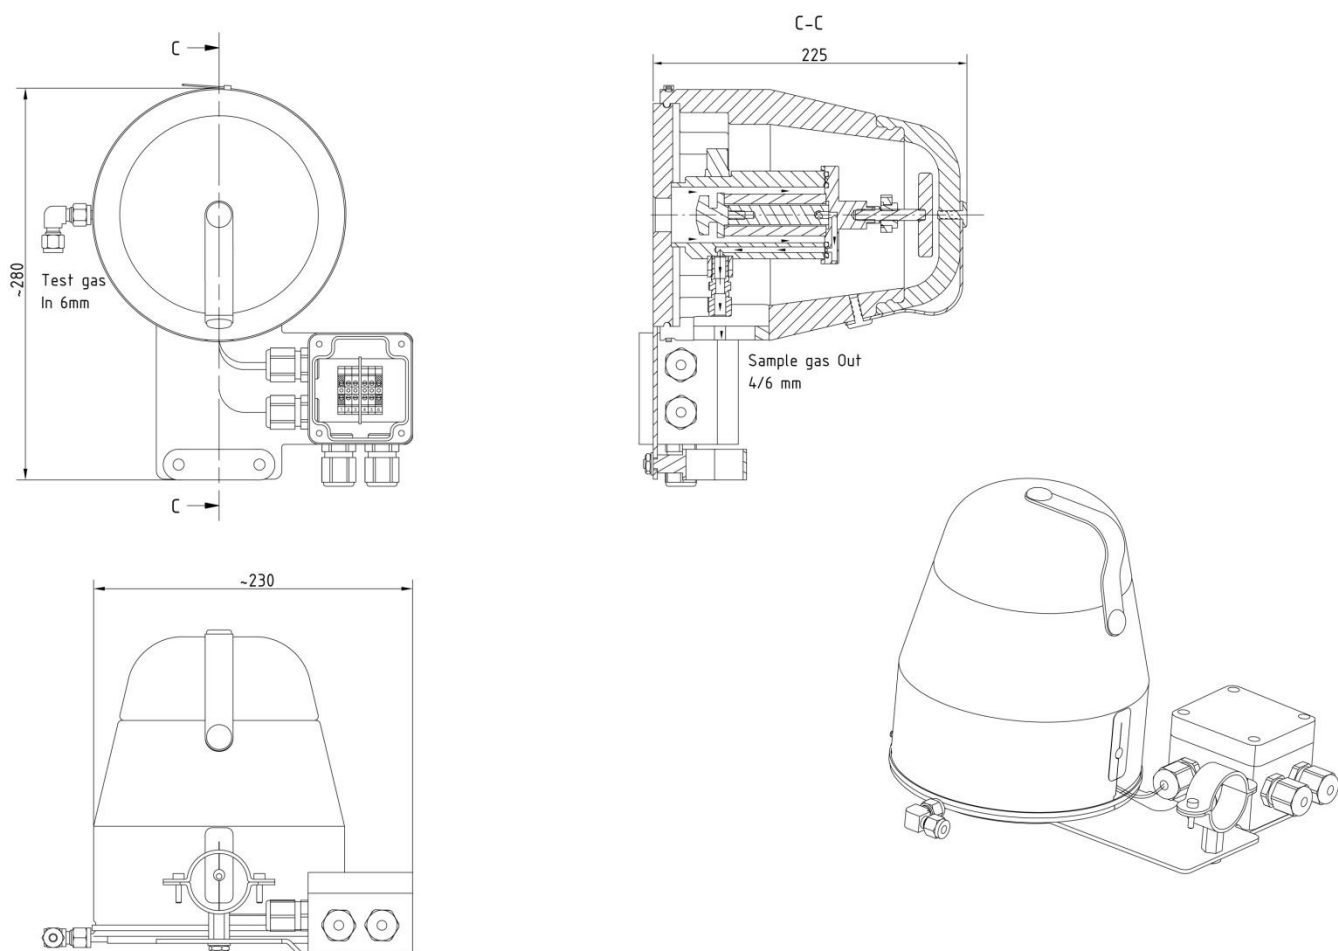

Figure 1 Dimensions and construction of the SP180-H
- To connect the test gas line, a threaded tube connector with Ø 6 x 1 mm (DN4/6) is available (see Figure 1)
- The temperature-resistant, stainless steel connector ④ from M&C has a double-blade ring system to ensure reliable sealing. First finger-tight the nuts of these connectors, then use a flat spanner to turn the nuts exactly 1¼-turns. The nuts are now correctly mounted.